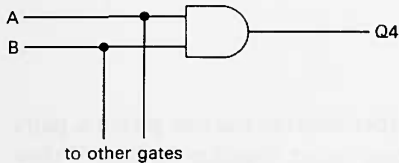

Figure C57
*Hint:* Note that  $Q4 = A \text{ AND } B$  which means you can start your design as shown in figure C57. Look for similar relationships between the other outputs and A and B.